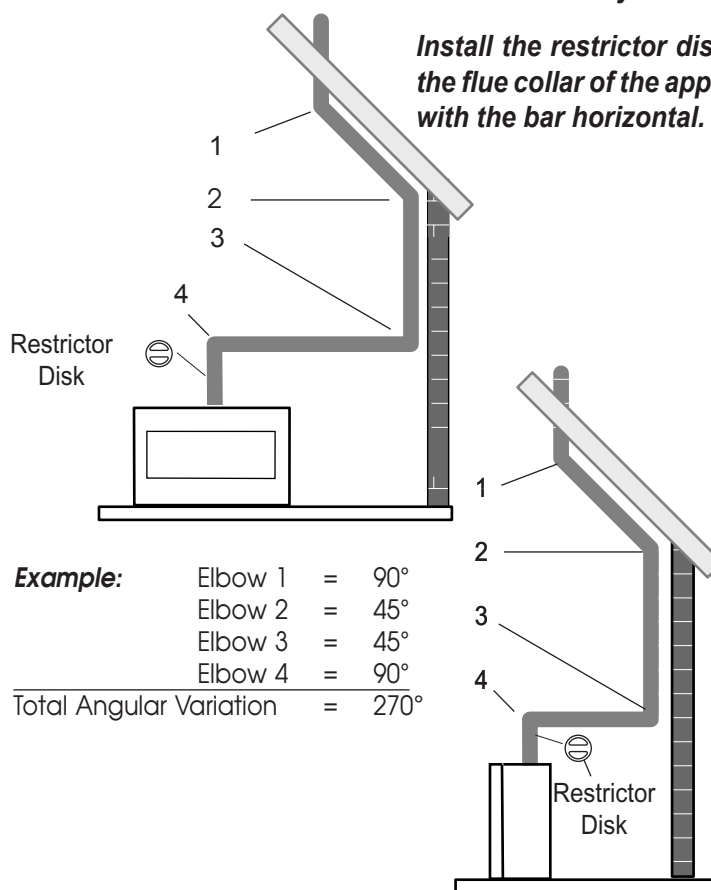

Figure 26 - Maximum Elbow Usage
- Two sets of 45° elbows offsets may be used within the vertical sections. From 0 to a maximum of 8' (2.5 m) of vent pipe can be used between elbows. See Figure 26.
- The maximum angular variation allowed in the system is 270°. See Figure 26.